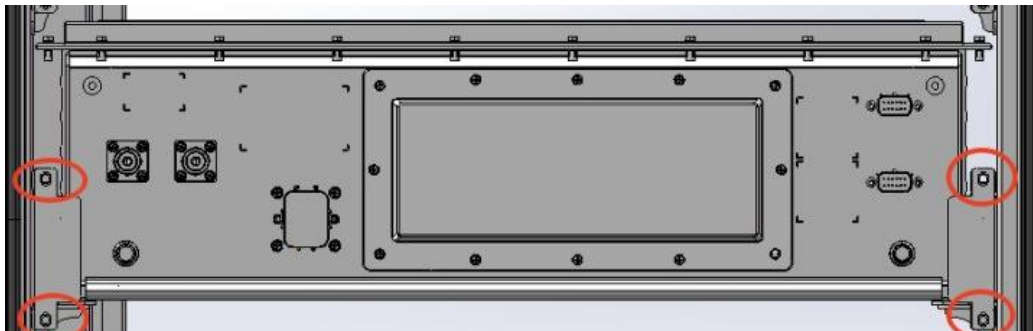

Figure 7-3 Schematic Diagram of Fixing the Battery Module
- 5) After pushing it in place, each battery box needs to be locked to the battery frame with 4 hexagonal flange bolts M8×30, and the recommended torque is $25 \pm 2 \text{ NM}$, as shown in Figure 7-3: